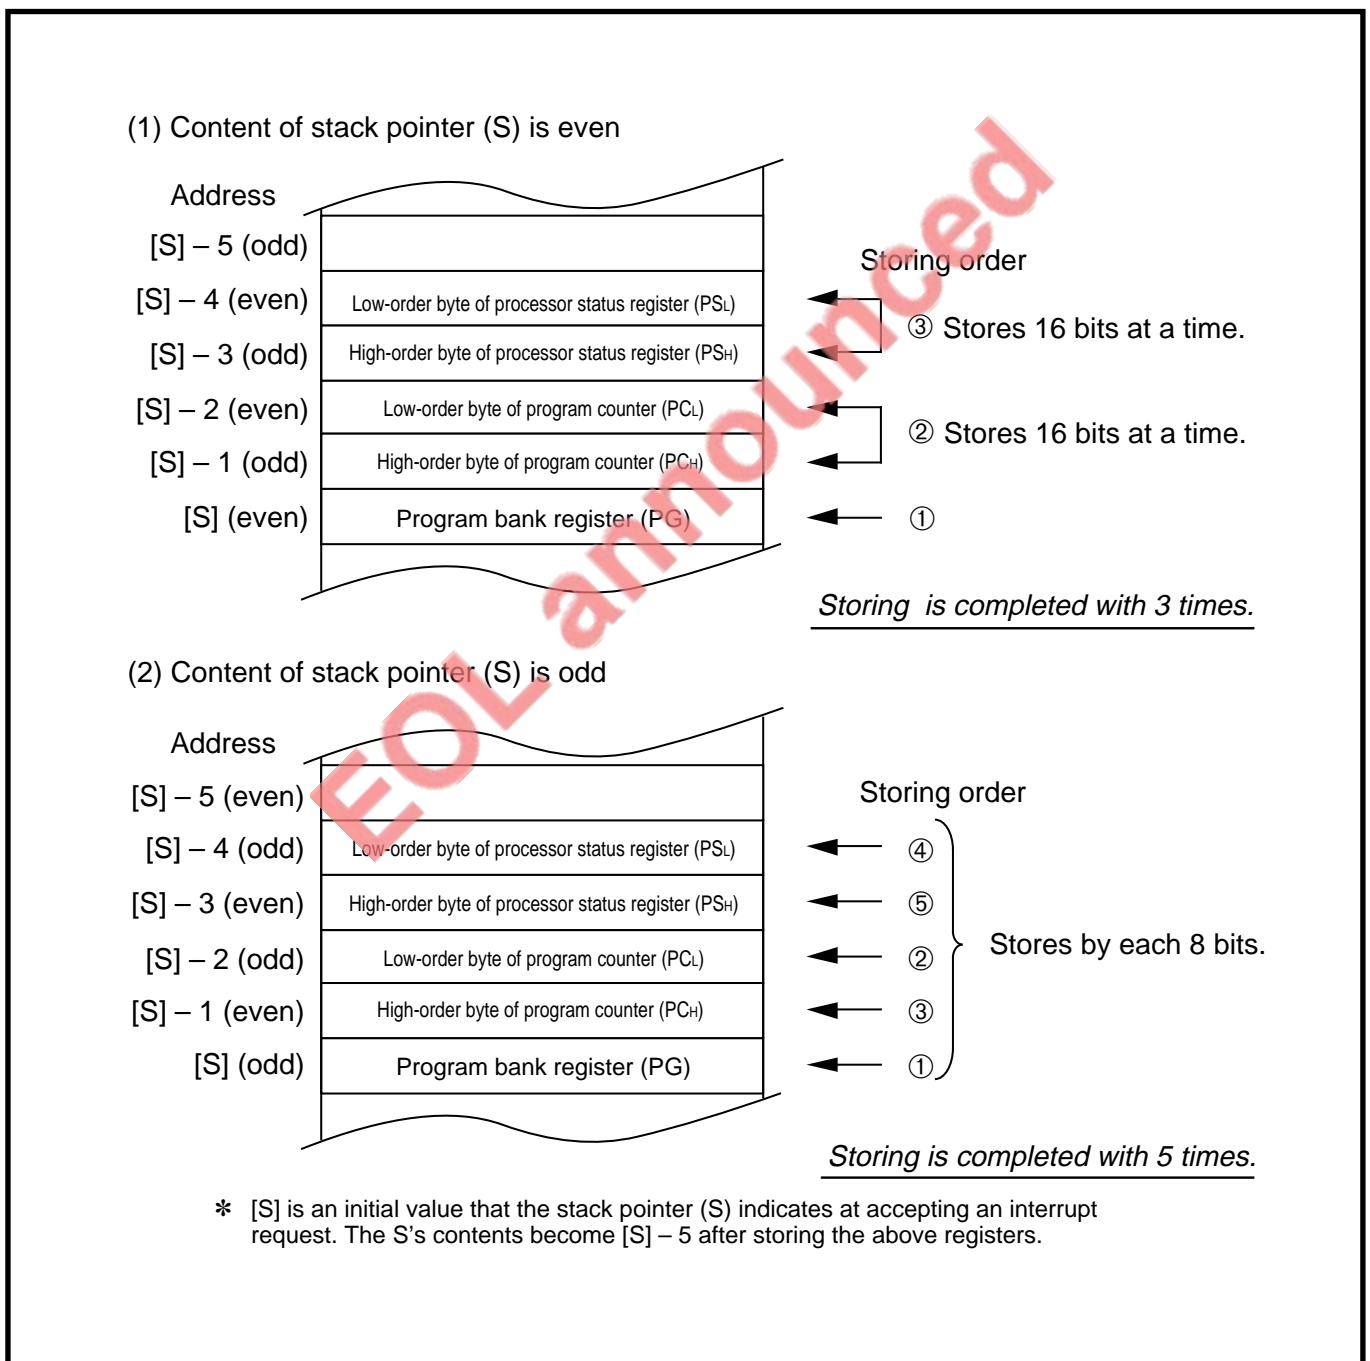

Fig. 4.7.3 Register storing operation
When the contents of the stack pointer (S) are even, the contents of the program counter (PC) and the processor status register (PS) are stored as a 16-bit unit simultaneously at each other. When the contents of the stack pointer (S) are odd, they are stored with twice by an 8-bit unit for each. Figure 4.7.3 shows the register storing operation.